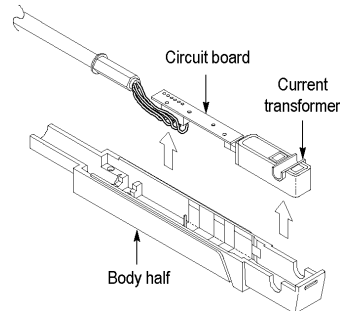

Figure 26: Removing the Current Transformer
6. If you need to replace the current transformer, lift the transformer out of the probe and pull it out of the circuit board socket. (See Figure 26.) The circuit board may be removed by lifting out the strain relief and the circuit board from the body half.